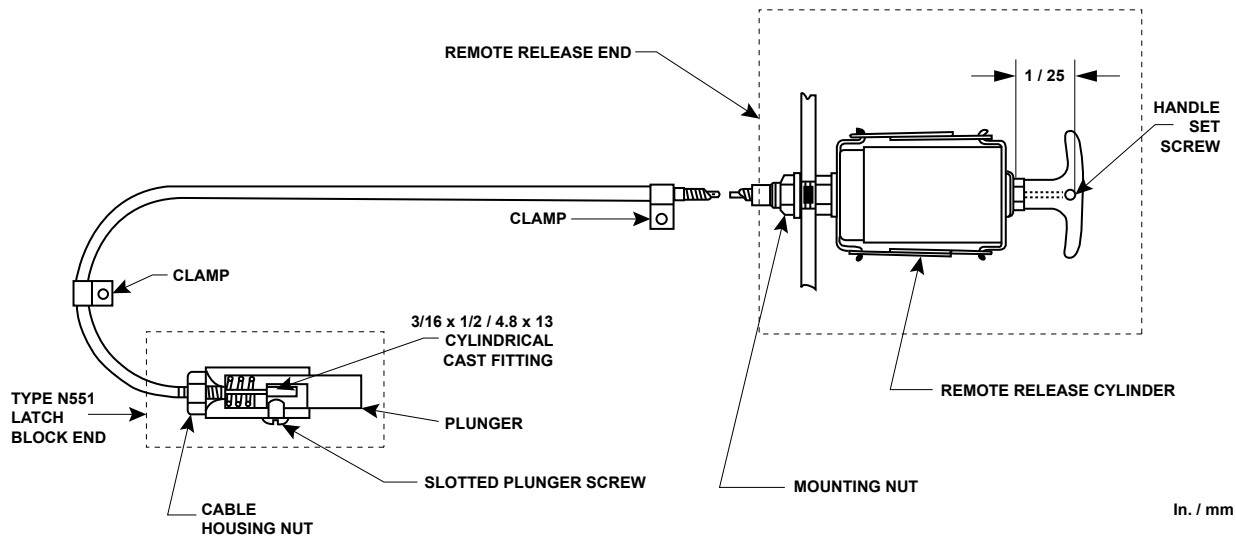

Figure 3. Type P164B Cable Release Installation Schematic
2. If it is necessary to cut the cable to a shorter length, pull about one foot of inner cable from the Type N551 latch block cable end (end with the 3/16 x 1/2 in. / 4.8 x 13 mm long cylindrical cast fitting, see Figure 3) from the housing.
5. Loosen the slotted screw, Figure 3, on the Type N551 valve's latch block until the plunger can be pulled from the latch block.